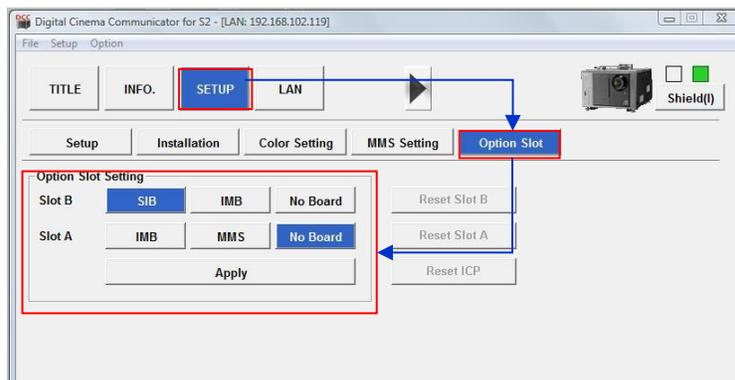

Figure 24 Option slot settings on NEC Digital Cinema Communicator.
4. Select **[Setup]** → **[Option Slot Setting]** on the Digital Cinema Communicator and select IMB for Slot B in Option Slot Setting. (as shown in Figure 24)